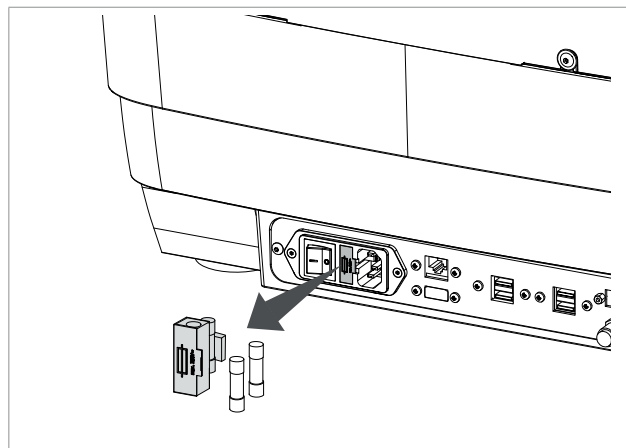

Fig. 143
- 2) Use a flat screwdriver to extract the fuse box from the socket (Fig. 143), remove the fuse and replace, if necessary.